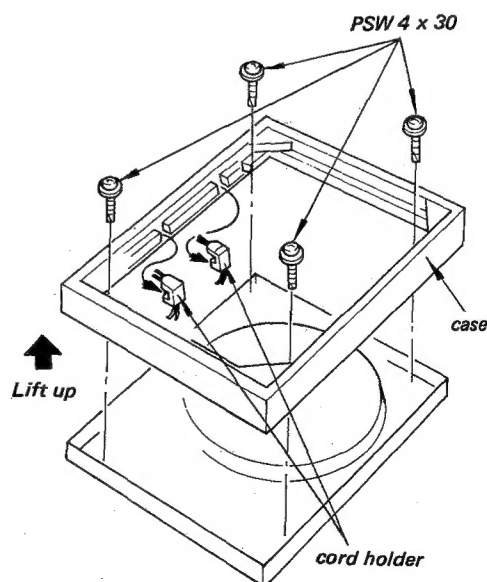

Fig. 2-4
2. Remove four screws and pull the cord holder off as shown in Fig. 2-4.